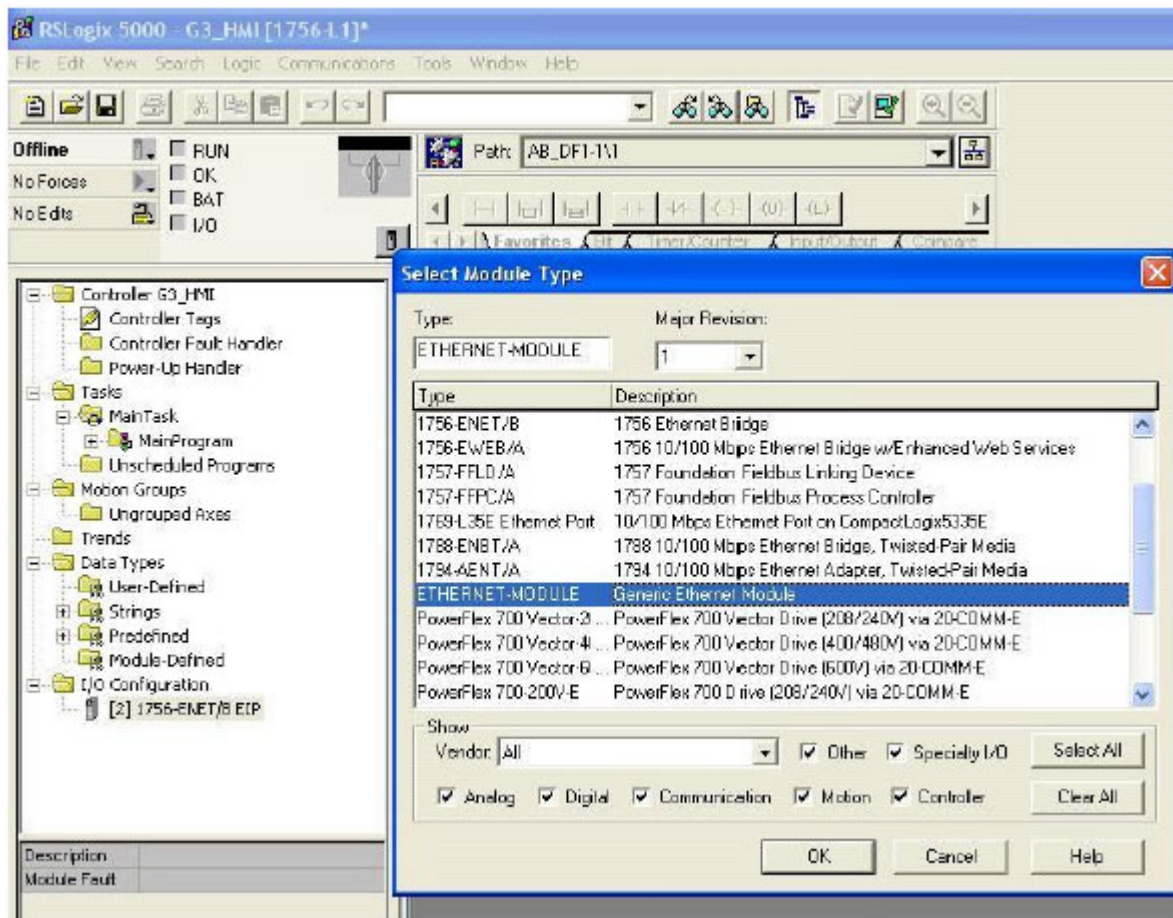

FIG. 71. Ethernet Module Selection
- c. In the Select Module Type window, choose Generic Ethernet Module. See FIG. 71.